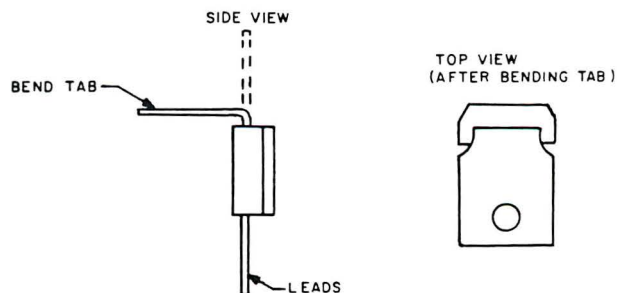

Figure 4-6. Heat-Sink Tab-Bending Information.
11. Remove the LM317MP (CPN 128-0076-005) and LM337MP (CPN 128-0076-007) 3-leg regulators from the Function Components Kit. Refer to figure 4-6, and bend the heat-sink tab 90 degrees from the body of each, away from the chamfered corners.